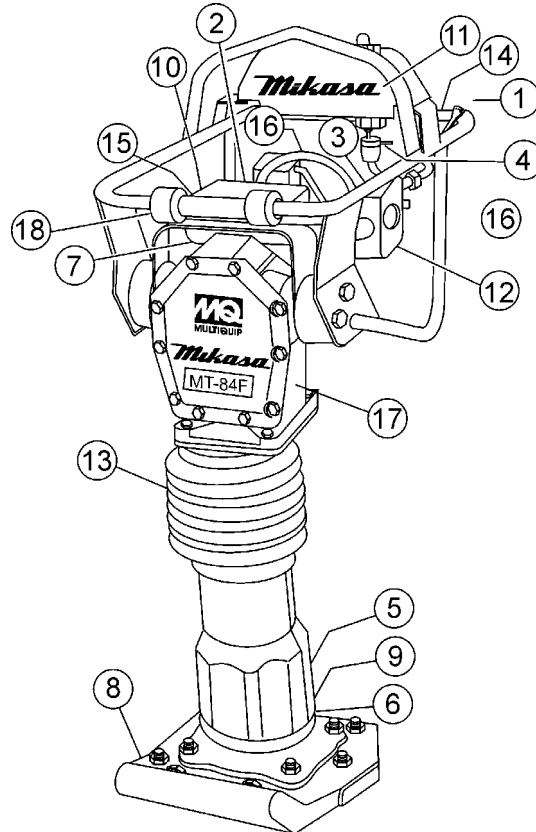

Figure 2. MT-84F Rammer
2. If oil is not visible, add 10W-30 motor oil into the oil fill plug opening (Figure 2). The bath contains approximately 1.7 pints (800 cc.)